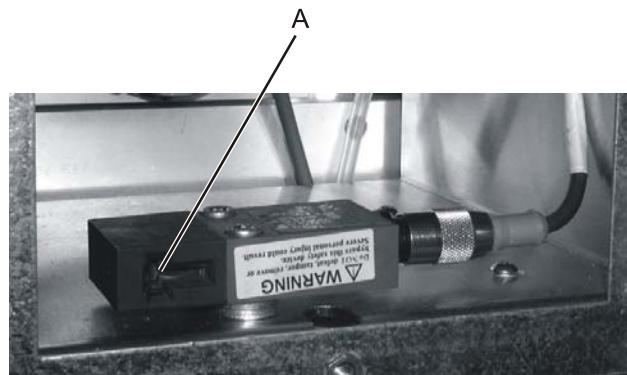

Figure 9: Rear mirror access panel interlock override switch
3. Insert the corresponding interlock defeat key into the override switch (see Figure 9, A).